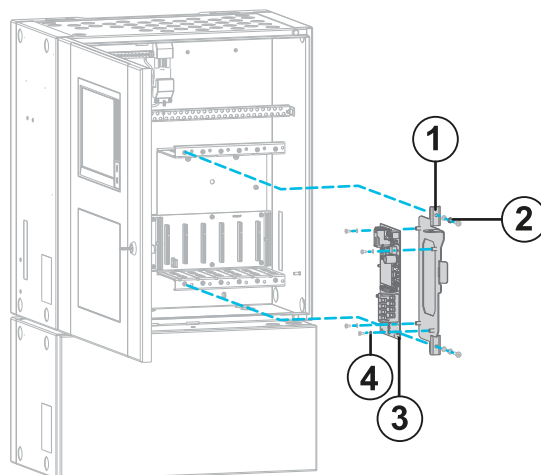

Fig. 34: Mounting boards on the FC702D or FC718/708 panel
- 1 Use M3 screws, item 4 in Fig. 34, to attach the CSG PCBA, item 3, to an A16381C5EY mounting plate, item 1.
- 3 Use two M4 screws, item 2, to secure it.